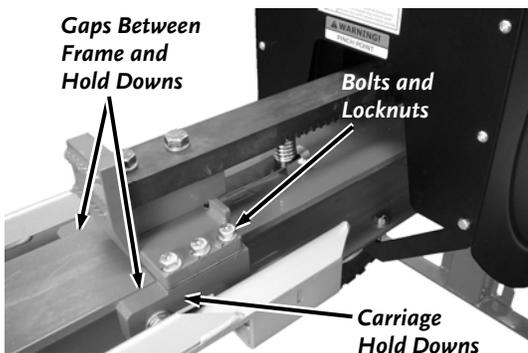

Figure 22
3. Loosen the three side Bolts on each side of Carriage assembly (**Figure 22**).